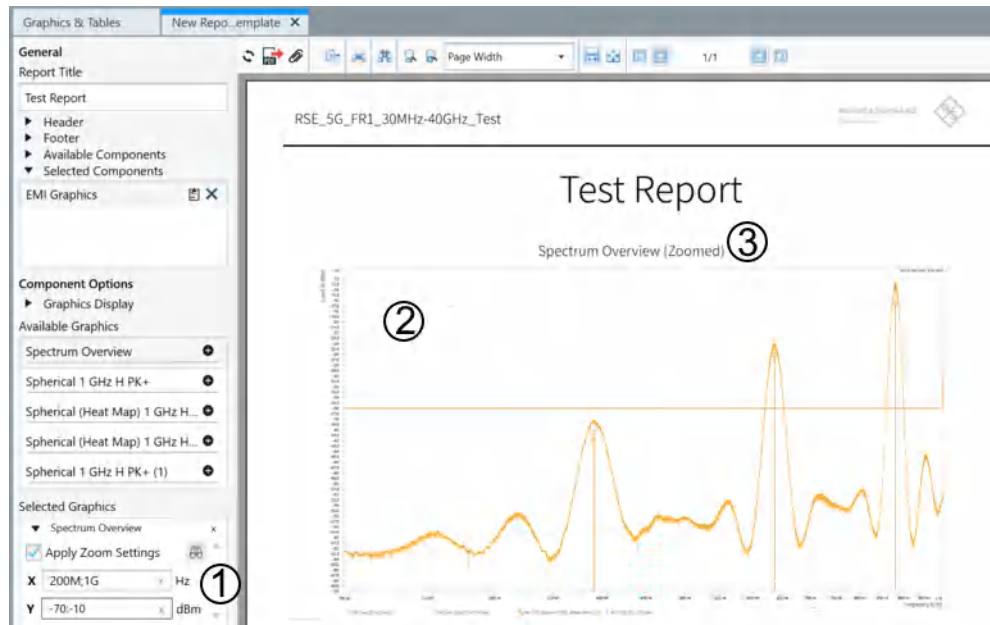

Figure 4-126: A test report with a chart that has correct zoom parameters configured
6. To let your settings take effect for the report, enable the "Apply Zoom Settings" checkbox (1 in Figure 4-126).